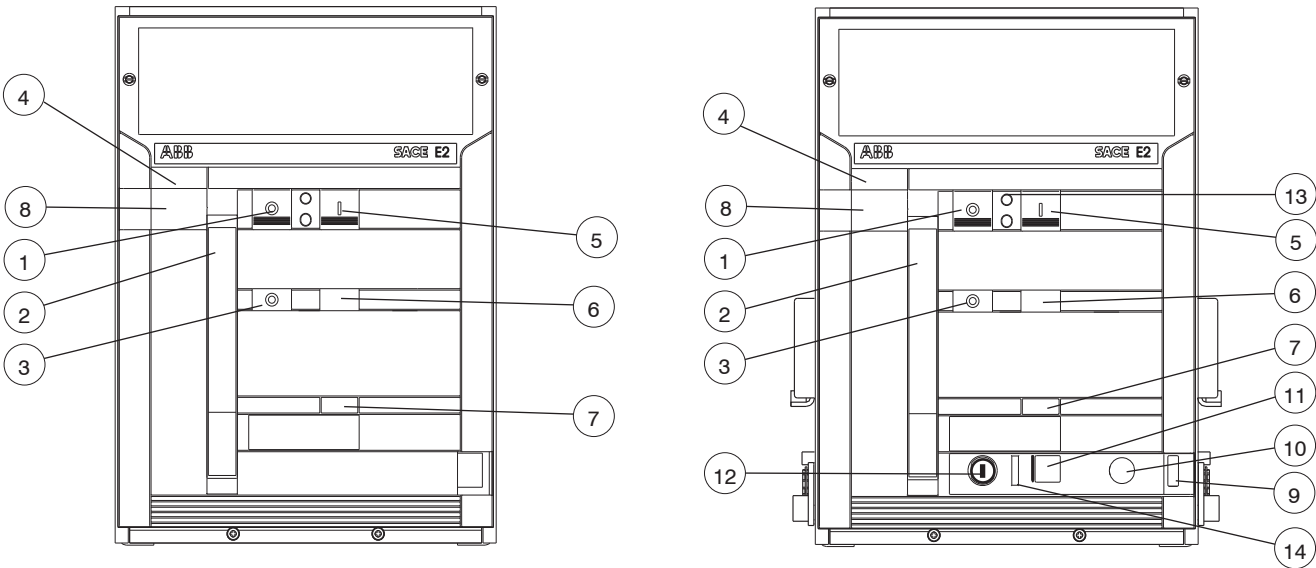

Fig. 23
- DISCONNECTED: the moving part is inserted in the fixed part WITHOUT any connection between the power terminals and WITHOUT coupling the sliding contacts for the auxiliary circuits: in this position all electrical operation of the circuit-breaker is prevented. On the front the indicator (9, Fig. 23) indicates DISCONNECTED. The switchgear compartment door can be closed.
- TEST ISOLATED: the moving part is inserted in the fixed part WITHOUT any connection between the power terminals, but WITH the sliding contacts coupled for the auxiliary circuits. In this position, the circuit-breaker can be operated for the offline tests. The indicator (9, Fig. 23) indicates TEST ISOLATED.
- CONNECTED: the moving part is fully inserted in the fixed part WITH the connection of both the power terminals and the sliding contacts for the auxiliary circuits. The circuit-breaker is operational. The indicator (9, Fig. 23) indicates CONNECTED.